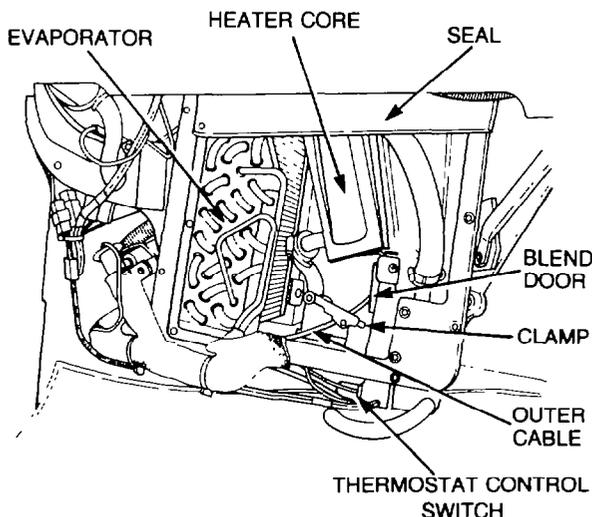

Figure 325 — Hot/Cold Cable — Removal
- g. Disconnect the hot/cold control inner cable from the peg on the blend door, then remove the screw and clamp securing the outer cable (see Fig. 325) and withdraw the inner and outer cable from the air conditioner unit.